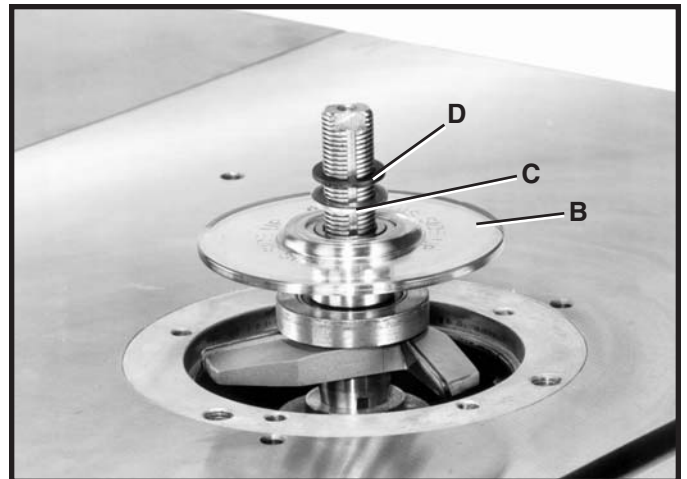

Fig. 39
2. Place the spindle guard (B) Fig. 39, on the spindle, then place the other washer (C) and "keyed" washer (D) on the spindle as shown.
4. **IMPORTANT:** Always place "keyed" washer (D) Fig. 39, on spindle before screwing on spindle nut (E) Fig. 40. The "keyed" washer (D) Fig. 39, prevents the spindle nut (E) Fig. 40, from loosening when the spindle turns counterclockwise.